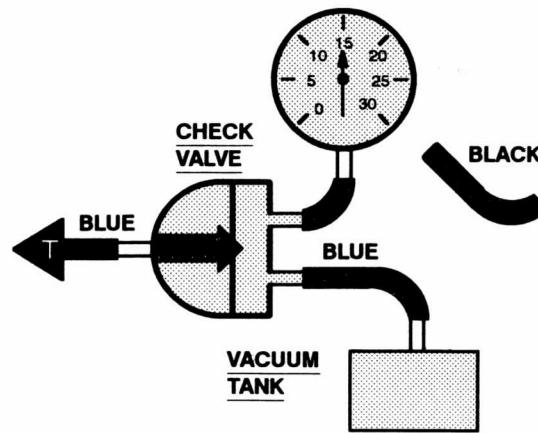

Figure 1 – System Supply Test
An Ohmmeter shows the resistance between two connected points (Figure 1).
1. Connect Vacuum Tester to system side of Check Valve (Figure 1).